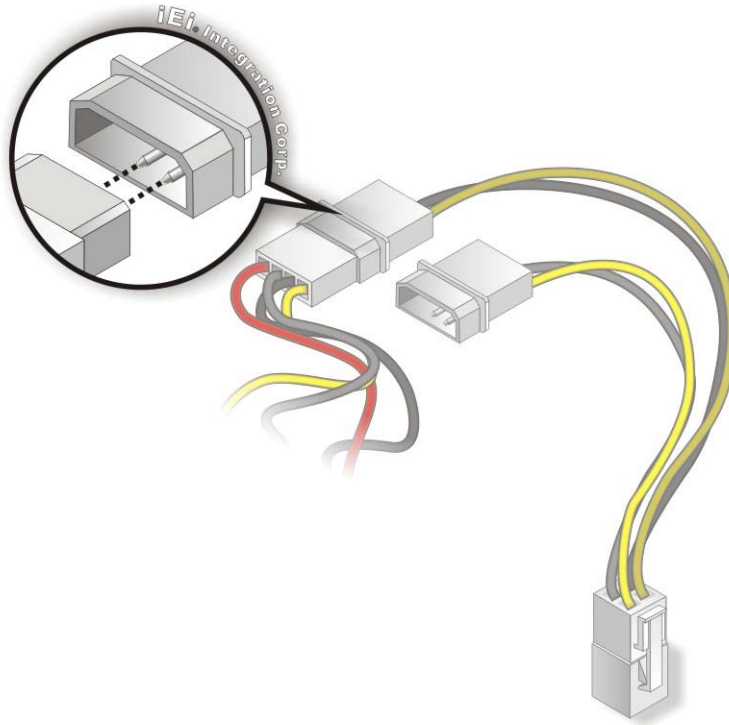

Figure 4-12: Connect Power Cable to Power Supply
Step 3: Connect Power Cable to Power Supply. Connect one of the 4-pin (1x4) Molex type power cable connectors to an AT/ATX power supply. See **Figure 4-12**.